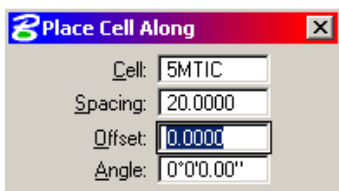

Figure 7-12: Place Cell Along Dialog
When the dialog opens, enter the desired spacing for the tick marks. Defaults are 100' or (10 meters). (Figure 7-12)
- ♪ The normal text for stationing is 100 feet (20 meters), but if you have a really long job, maybe you might want to space them at 1000 feet (100 meters) or another even increment. Be sure that the *Offset* and *Angle* are both set to “0”. (Figure 7-12)